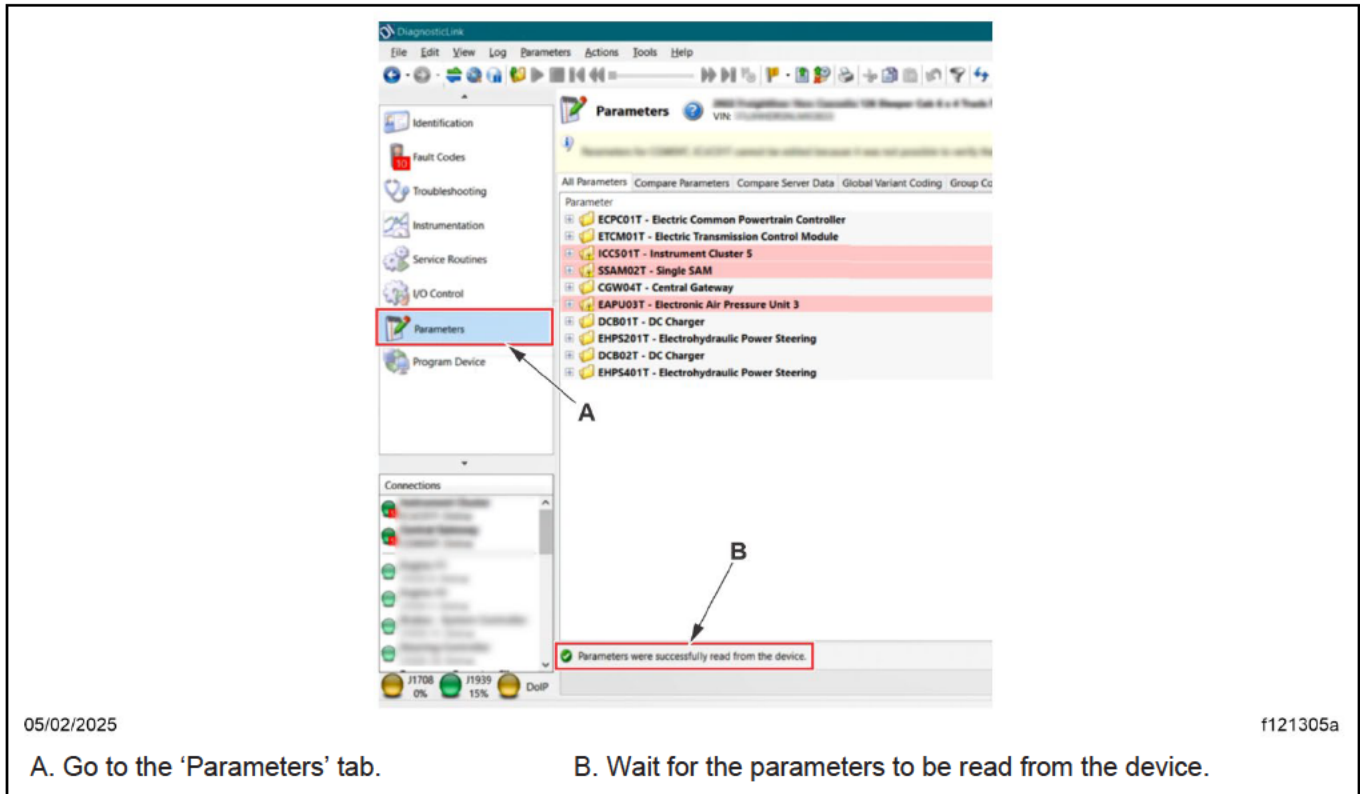

Fig. 1, Reading the ECU Parameters
- Go to the 'Parameters' tab. See Fig. 1.